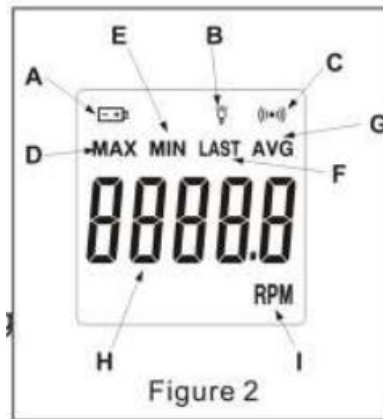

Figure 1
1. Key function: as shown in Figure 1